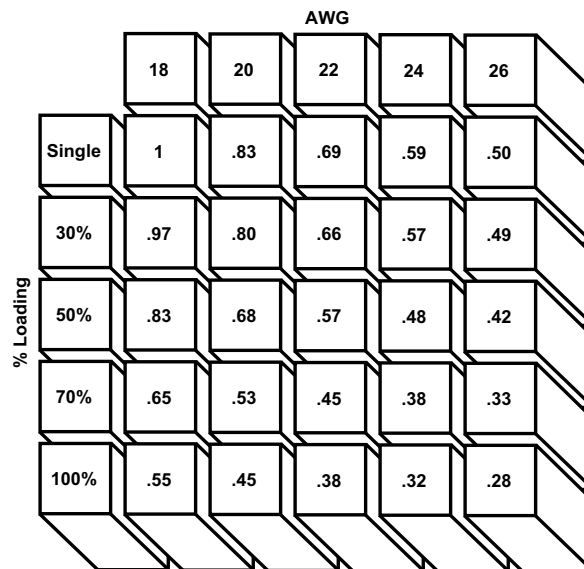

Figure 2 Rating factors allow the base current to be adjusted for various connector loading and wire sizes.
- Next are rating factors; a table of multipliers to account for connector loading and for smaller wire sizes (See figure 2). The designer first determines the base current for the ambient conditions of the application; then multiplies this base current by the rating factors to find the current level for the application's loading factor and wire size.
- Figure 2, the rating factor for 50% loading and 20 AWG [0.6mm²] wire is 0.68.